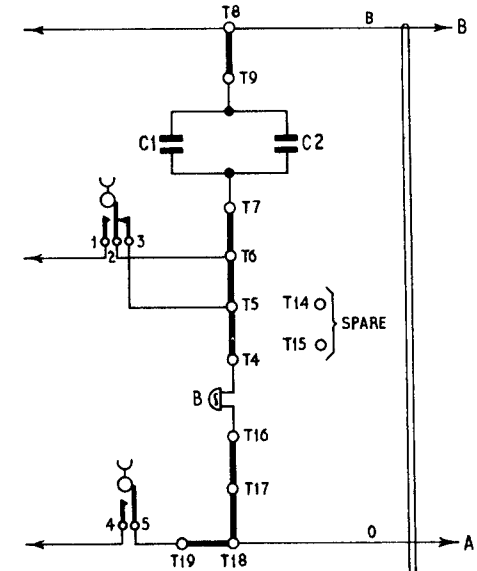

FIG.3. 2-WIRE PBX EXTENSIONS WITH RECALL
2-Wire P B X extensions with recall. Fig 3
- A For 2-Wire external extensions using UAA No.96 or 96A wire the telephone to Fig.3, retaining the Strap T8-T9